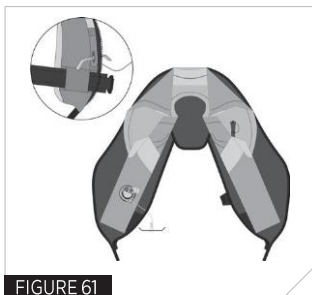

FIGURE 61
12. Thread the manual inflation handle through the stitched buttonhole on the side of the cover (Fig 61).